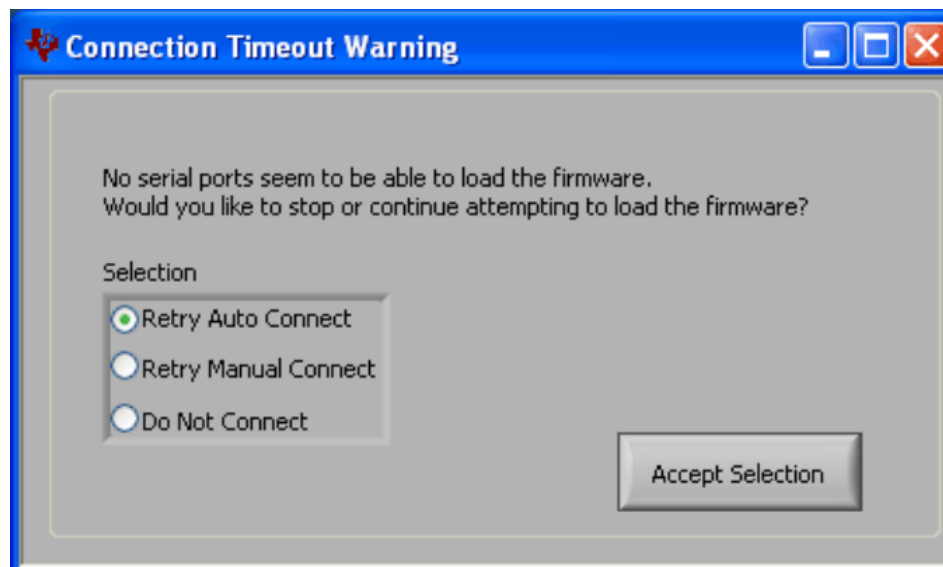

Figure 9. Connection Timeout
- Step 4. If the plug-in cannot connect to the EVM, you will see a window as shown in Figure 9. This message may indicate that the firmware is not loaded on the MMB3. You may select *Retry Auto Connect*; if that action fails, select *Retry Manual Connect* and specify the COM port to be used.